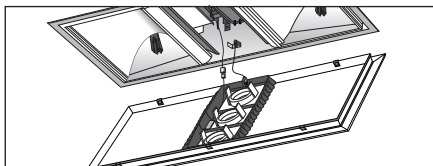

Fig. 19
2. Bring fascia assembly up to the Tastic body. (Fig. 19) Connect the earthing wire to the fascia and connect the IR sensor lead (Smart Switch models).